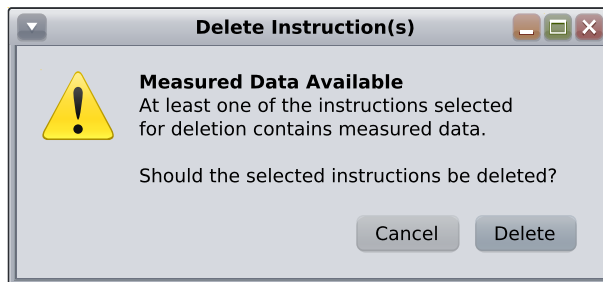

Figure 1.22: Dialog Delete Instruction Confirmation
- The selected instruction(s) is/are deleted if data has not yet been acquired for the selected instruction(s). If acquired data is available for at least one instruction, a confirmation dialog (see [Figure 1.22 \[p 47\]](#)) is shown. The instruction(s) is/are deleted only if the delete operation is confirmed by the operator.